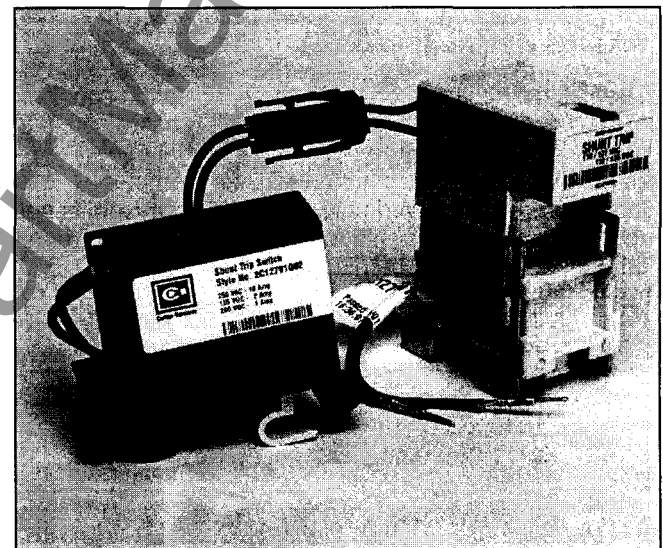

Figure 3-35 Shunt Trip with Cutoff Switch
- Shunt Trip (ST)
- Spring Release (SR)
**Shunt Trip** - The shunt trip is an optional device on circuit breakers (Figures 3-35 and 3-36). It opens the circuit breaker instantaneously when its coil is energized by a voltage input (Table 3.3). A total of two shunt trips can be mounted on a Magnum circuit breaker.